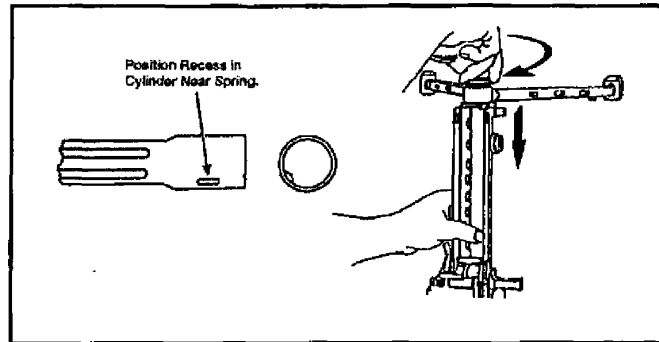

Figure 071-312-4025-22. Replacement of the bipod and gas cylinder
- (1) Place the bipod on the receiver.
- (2) Push the gas cylinder through the bipod yoke into the receiver.
- (3) Push the cylinder to the rear while countering the pressure of the locking spring and guiding the end of the cylinder into the receiver with the other hand applying downward pressure. When you have fully inserted the gas cylinder, rotate it until the spring clicks into place in the recess at the rear of cylinder (figure 071-312-4025-22).